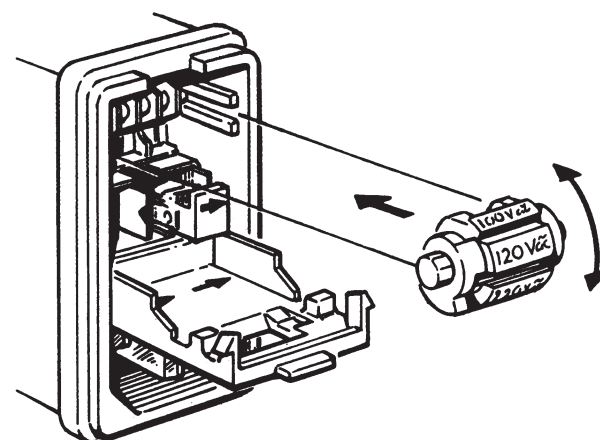

Fig 8. Choose the correct voltage by turning the voltage selector.
5. Remove the voltage selector switch, select correct voltage and place the switch into the instrument with the correct voltage showing (Fig 8).